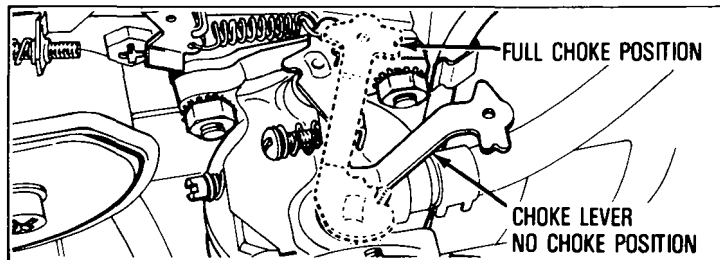

Figure 3
- ① **RECOIL STARTER:**
A. Move choke lever (see Figure 3 or 4) to "FULL CHOKE POSITION".
② ELECTRIC STARTER:
- A. Move choke lever (see Figure 3 or 4) to "FULL CHOKE POSITION".